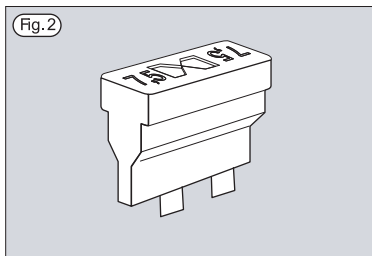

Fig. 2
- Locate brake fluid circular inspection sight on the side of the brake fluid reservoir (see figure 2).
- Check the frictional material thickness (fig.2) . If thickness is equal to 1mm or less, immediately apply to a Benelli Dealer or Authorized Workshop to have it renewed.
If the electrical equipment of your scooter gives no signs of life when the ignition key is turned, check the fuse condition by inspecting the thread located on top of the fuse (see figure 2). If the fuse has blown, immediately contact a Benelli Dealer or Authorized Workshop to have the electrical equipment checked.
- Unloose the nut fixing screw 2 (fig.2) situated on the fork sleeve (opposite to the disc).
- Unscrew the wheel pin on the left side of the vehicle. Gently withdraw it from its seat while holding the wheel with one hand. Keep the spacer situated on the left side of the wheel. Remove the wheel and then detach the odometer transmission 4 (fig.2).
- Insert the wheel pin 2 from the left side (fig.2).
- Refit the brake caliper taking care not to damage the pads and brake pipes. Tighten the two fixing screws 1 (fig.2) on the left sleeve with the prescribed torque (23 Nm).
- Tighten the pin fixing screw 2 (fig.2) situated on the right sleeve with a torque not greater than 50 Nm.